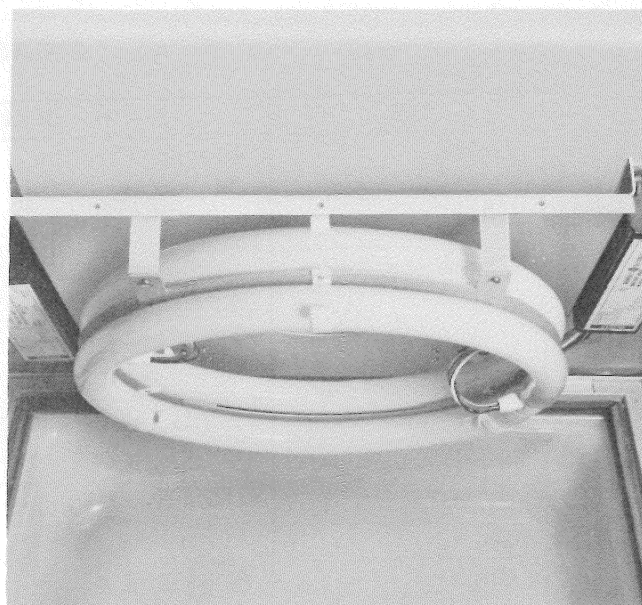

Fig. 15—Starter Ring Assembly Secured in Normal Position
- (n) Secure the starter ring assembly in its normal position and install the remaining lamp (Fig. 15).